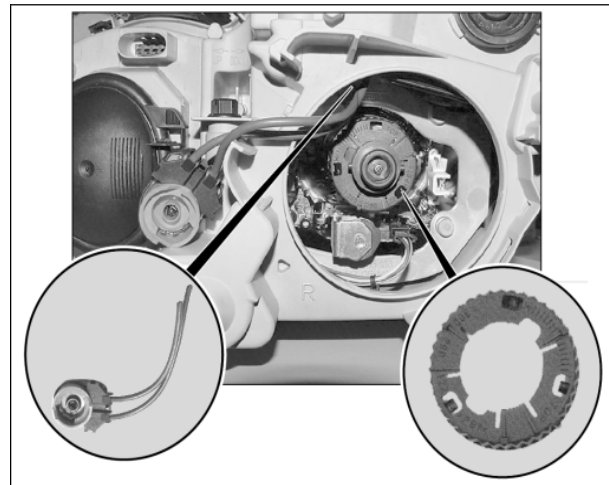

Figure 3
- 7.6 Remove retaining collar (Figure 3, right circle) and scrap retaining collar.
- 7.8 Cut off burner plug as close to the ignition module as possible (Figure 3, left circle) and scrap burner plug.